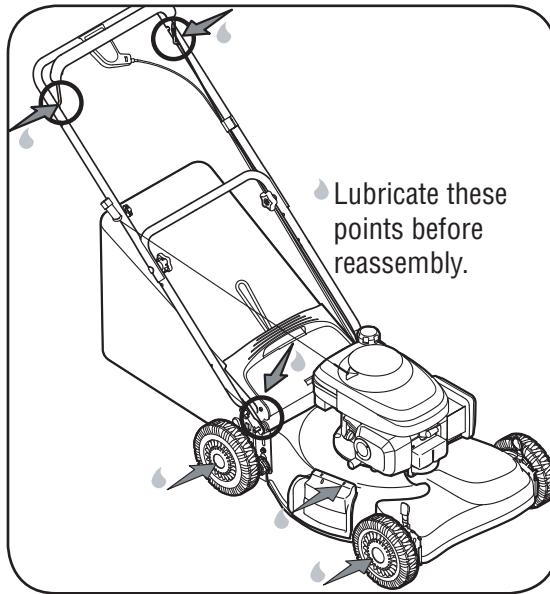

Figure 5-1
1. Lubricate pivot points on the blade control handle at least once a season with light oil. The blade control must operate freely in both directions. See Figure 5-1.
2. Lubricate the wheels at least once a season with light oil (or motor oil). If wheels are removed for any reason, lubricate surface of the pivot arm and inner surface of the wheel with light oil. See Figure 5-1.
3. Lubricate the torsion spring and pivot point on the rear discharge door and side mulch plug periodically with light oil to prevent rust. See Figure 5-1.